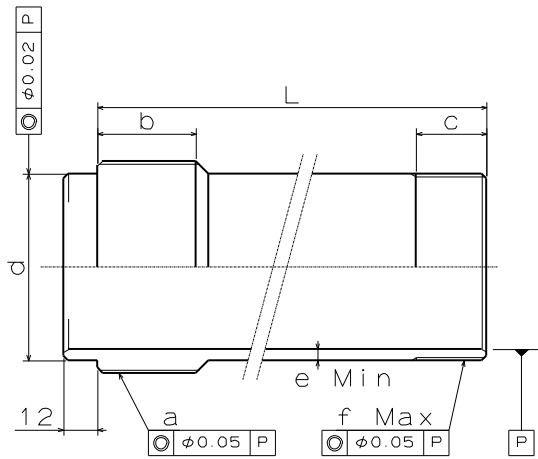

Fig.14
The dimension L in Fig.14 is determined from the distance A between the cylinder adaptor and the back plate.
- Keep the dimension e and the dimension f in Fig. 14 for the draw pipe and a material with the tensile strength 380MPa or more must be used.